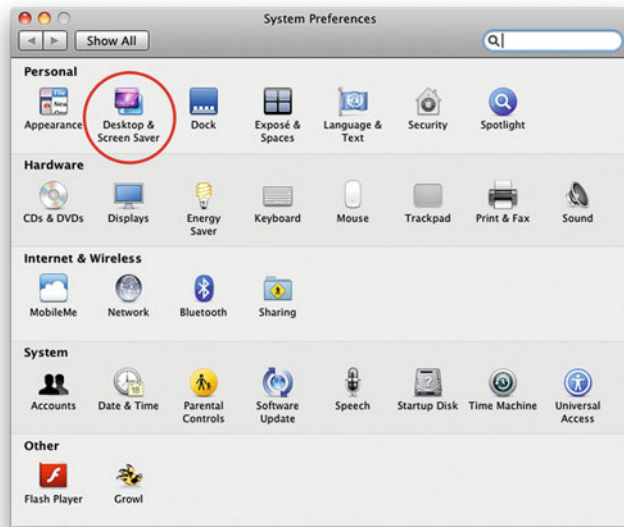

FIGURE 4.8 System Preferences window in Apple Mac OS X with Desktop and Screen-Saver selected and circled.
2. Select the **Desktop & Screen Saver** button, as seen in Figure 4.8.